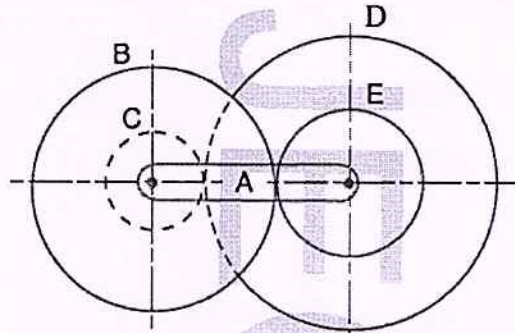

Figure 4
- 16 In a reverted epicyclic gear train (Figure 4), the arm A carries two gears B and C and a compound gear D - E. The gear B meshes with gear E and the gear C meshes with gear D. The number of teeth on gears B, C and D are 75, 30 and 90 respectively. Find the speed and direction of gear C when gear B is fixed and the arm A makes 100 rpm clockwise.